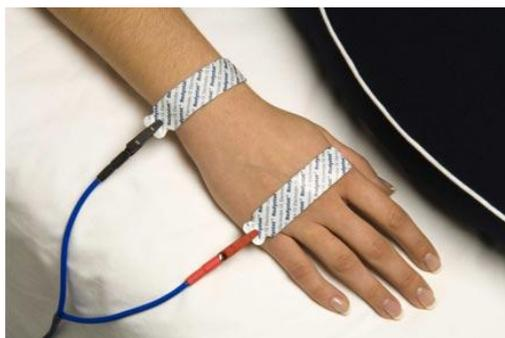

Figure 2. Placement of electrodes on hand
3. Place two electrodes on to the right hand (it might be helpful to draw an imaginary straight line between the protruding bones on the wrist, then place each electrode in the centre of that line). Place one behind the knuckle of the middle finger and the other on the wrist next to the ulnar head (figure 2).
4. Attach two alligator clips to the electrodes (red to the electrode nearest the fingers, figure 2).